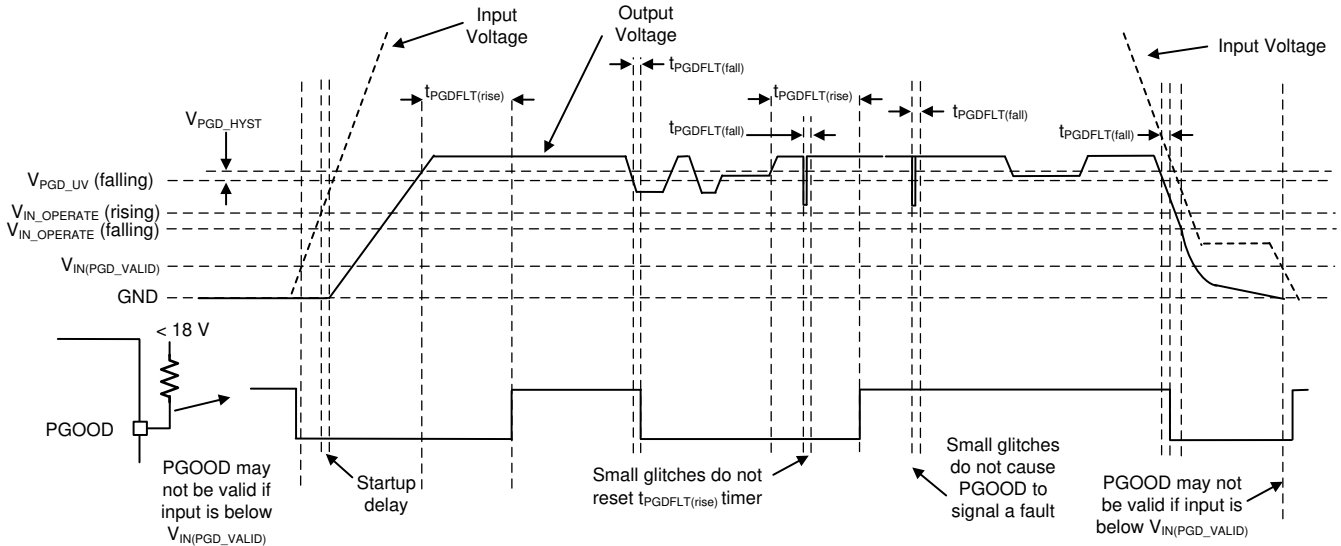

Figure 7-5. PGOOD Timing Diagram (Excludes OV Events)
The PGOOD function is implemented to replace a discrete reset device, reducing BOM count and cost. The PGOOD voltage goes low when the feedback (FB) voltage is outside of the specified PGOOD thresholds (see Figure 6-8). This can occur during current limit and thermal shutdown, as well as when disabled and during normal start-up. A glitch filter prevents false flag operation for short excursions of the output voltage, such as during line and load transients. Output voltage excursions that are shorter than  $t_{PGDFLT(fall)}$  do not trip the PGOOD flag. Refer to Figure 7-5 to best understand PGOOD operation.